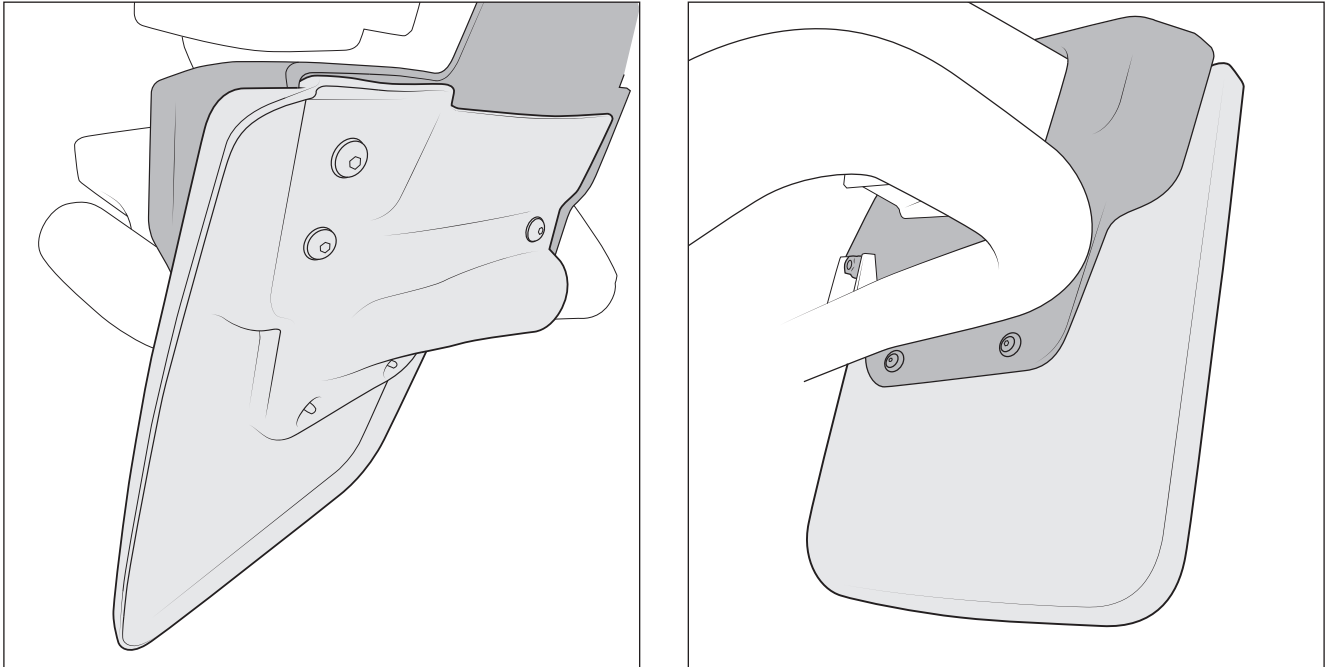

Figure 7
3. Install the Splash Guards and AEV Flare Extensions. Use the M10x20 bolts and washers provided with Splash Guard Kit through the Splash Guard and Flare Extension into the corner tanks (fig. 7). Discard M10x16 bolts from Flare Extension Kit.
4. Install an M10x20 bolt and washer through inboard hole of the Splash Guard, Flare Extension and corner weldment bracket. Loosely install nut from back side (fig. 7).
5. Install provided M6 bolts and nuts through Flare Extensions and Splash Guards. Recommend installing bolt from rear pointing forward, but they can be mounted in whichever orientation the customer prefers (fig. 7).